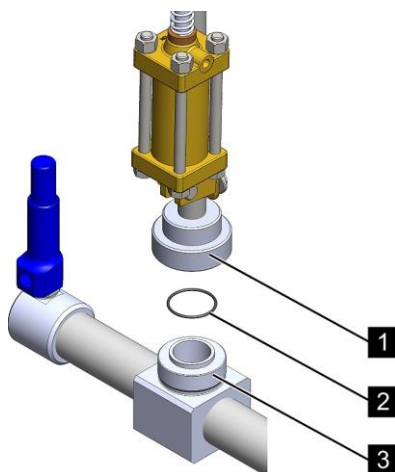

Fig. 103: Using O-ring
1. ➤ Grease the O-ring (Fig. 103/2) and O-ring seat and insert it into the flange connection (Fig. 103/3) on the distributor.
2. ➤ Fasten the selector valve with flange (Fig. 103/1) on the distributor.